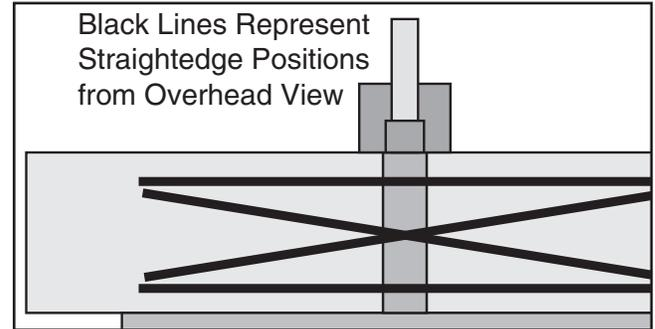

Figure 76. Straightedge positions for checking infeed/outfeed table parallelism.
- Place straightedge in one of the positions shown in **Figure 76**, and adjust eccentric bushings under infeed table so straightedge lies flat against both tables.